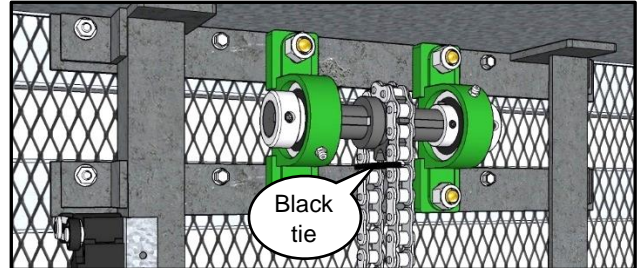

Figure 19
NOTE: Do not cut the black plastic tie! (see Figure 19)
- 7** Cut black plastic tie off. (see Figure 19)